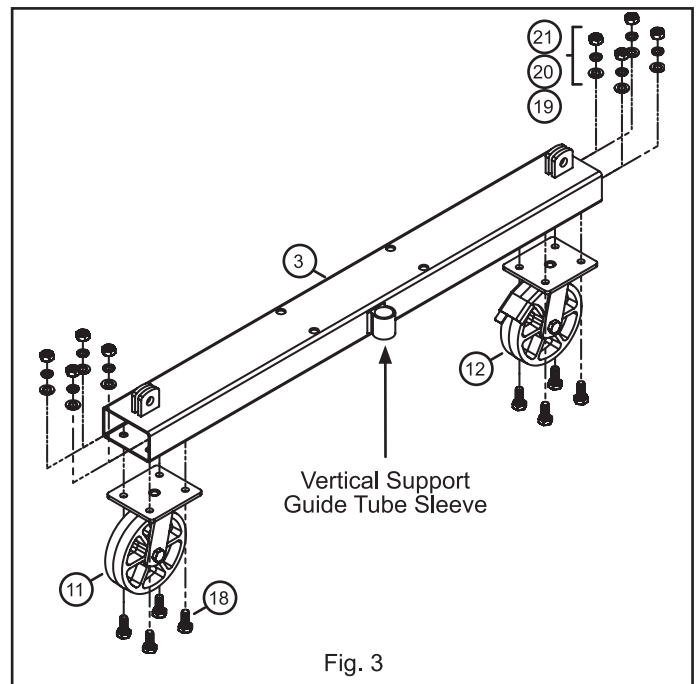
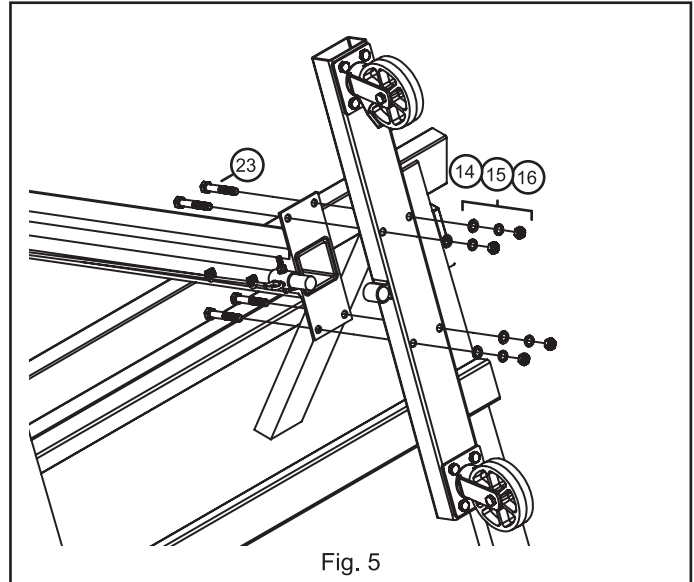

Fig. 3
Fig. 5
Step 3: Assemble the Base Cross Tube, Fig. 3.
Assemble the Swivel Casters (11) and Locking Swivel Casters (12) to the Base Cross Tube (3), as shown in Fig. 3. Place a Swivel Caster (11) onto the bottom of the Base Cross Tube (3) and use four M10x25mm Bolts (18), M10 Flat Washers (19), Lock Washers (20), and an M10 Nut (21) to secure it to the Base Cross Tube (3). Tighten these fasteners to between 28 and 32 ft-lbs (38 to 43 Nm). Repeat these steps to install the Locking Swivel Caster (12) onto the Base Cross Tube (3). Repeat for the other Base Cross Tube (3).
Using Fig. 3 as an example, the Locking Swivel Caster (12) is shown on the right side in relation to the Vertical Support Guide Tube Sleeve. When assembling the second Base Cross Tube (3), the Locking Swivel Caster (12) will be on the left side in relation to the Vertical Support Guide Tube Sleeve.
With the Vertical Supports propped up on the sawhorses, align the Vertical Support Guide Tube Sleeve, referenced in Fig. 3, to the Guide Tube on the Vertical Support, and align the four holes at the bottom of the Vertical Support flange with the holes in the Base Cross Tube (3), as shown in Fig. 5. Place four M12x110 Bolts (23) through the Vertical Support flange and Base Cross Tube (3), then place an M12 Flat Washer (14), M12 Lock Washer (15), and M12 Nut (16) on each bolt. Use a torque wrench and tighten the fasteners to between 55 and 65 ft-lbs (75 to 88 Nm).